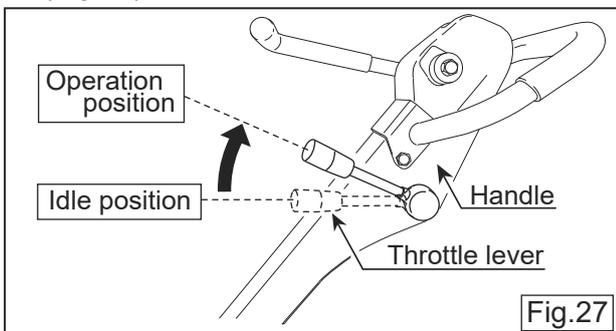

Fig.27
- If the throttle lever is opened suddenly, the machine starts to operate. When you operate the throttle lever slowly, it may cause failure of the clutch causing the bad connection. (Fig.27)